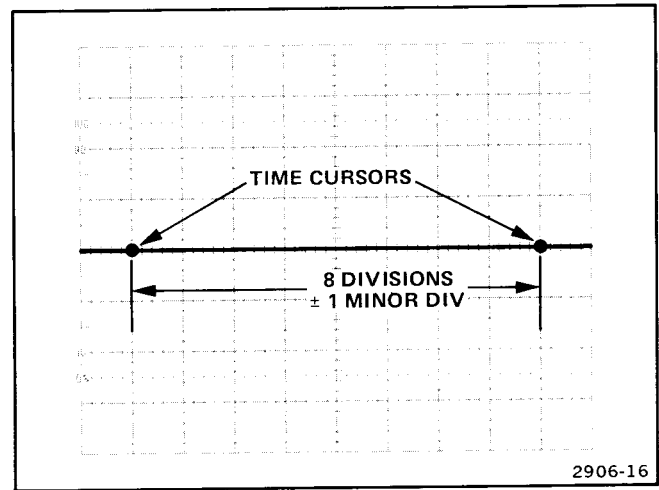

Figure 16. TIME cursor accuracy.
6. CHECK—display for 8 divisions ± 0.2 division (7.8 to 8.2 div) between time cursors (see Figure 16).